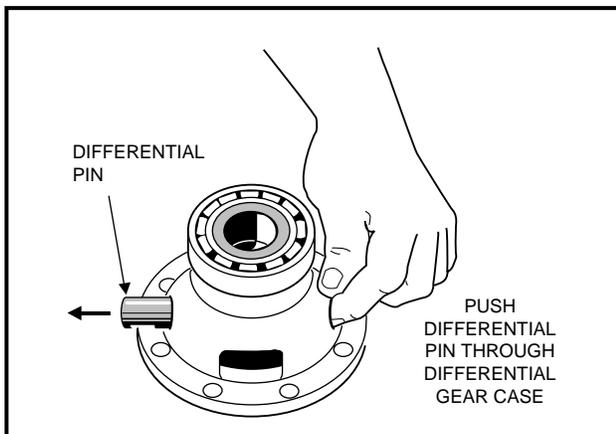

Figure 16-19 Differential Pin
- 9.5. Remove the differential pin (31) by pushing pin through differential gear case from one side (Figures 16-3 or 16-4, Pages 16-3 or 16-4). See also Figure 16-19.